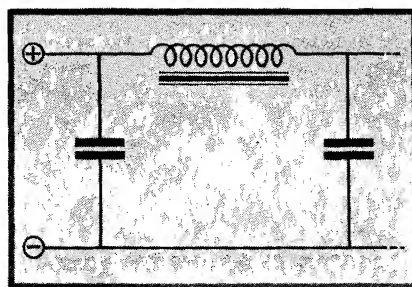

Fig. 5. A typical filter circuit used with a rectifier.
(1) Automatic volume control is effected by the rectifier with the aid of vacuum-tube amplifiers, the minute power of the last stage being used to control the grid bias of the previous stages.
(2) To make the current supplies of telephone apparatus, audio repeaters, amplifiers, operators' speaking batteries, and the like free of ripples within the audio range, low-frequency chokes and bridging condensers are inserted in the circuit between a rectifier and its load. (Fig. 5.)